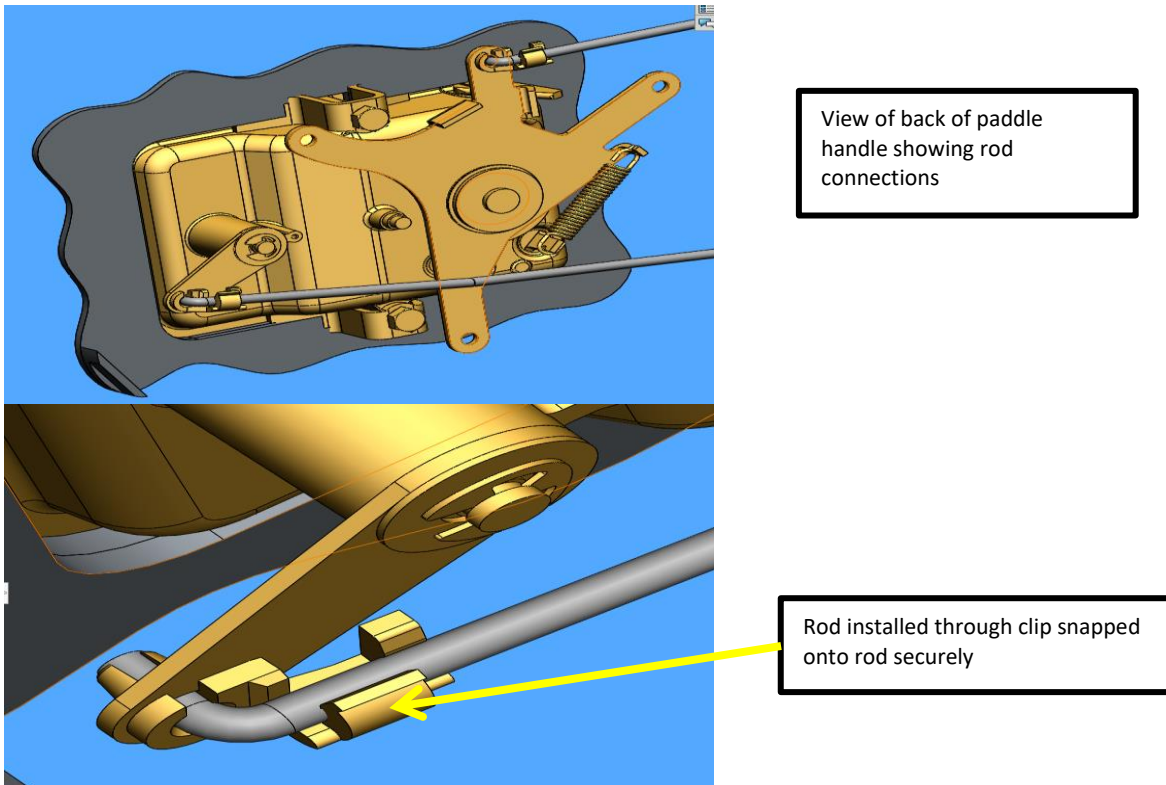

FIG. 21-1
- 23. Reinstall retained door panels. During door panel re-installation, window regulator and door latch rods **must** be re-connected. Ensure rod clips are clipped onto rods securely. Refer to FIG. 21-1.